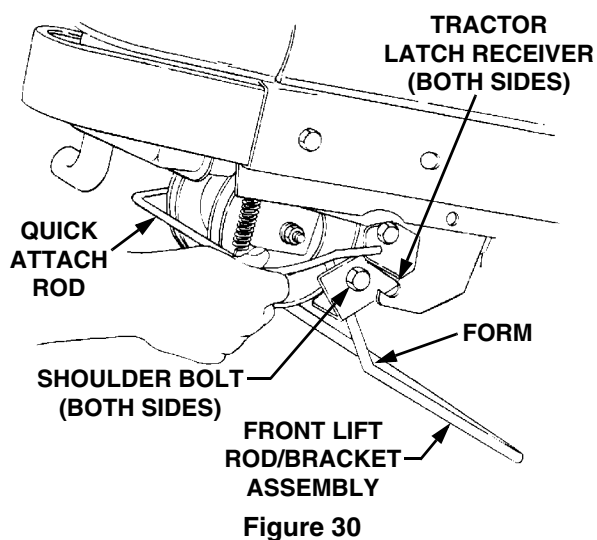

Figure 30
6. Refer to Figure 30 to ensure the correct orientation of the front lift rod/bracket assembly [the form (bend) in sides of rod point downward]. From the front of the tractor, push downward and hold the tractor quick-attach rod. Slide the shoulder bolts on each side of the front lift rod/bracket assembly fully into the left and right tractor latch receivers.